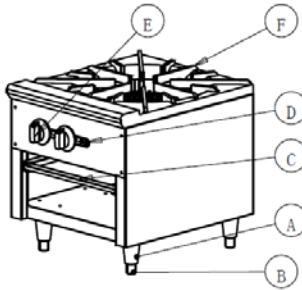

Figure 1. Features and Controls.
5. Install the four (4) legs (A) and feet (B) on the equipment. See Figure 1
2. Turn off all gas control knobs (E). See Figure 1.
4. The pilots burner must be lit at the end of the tube. Hold an ignition source through the pilot light hole (D) in the front panel at the pilot tube. When the flame is established remove ignition source.
1. Hold the leg (A) and rotate the adjustable feet (B) so the equipment is level. See Figure 1.
2. Check the drip tray(C) frequently.
3. To ignite the burners, depress and turn the gas control knob (E) to "High" Position.